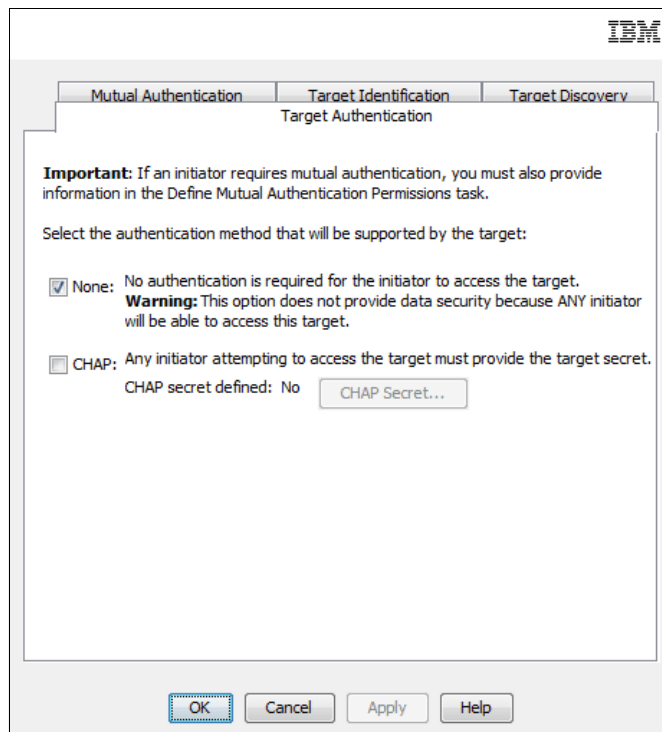

Figure 6-17 CHAP Authentication
3. You are presented with a panel for CHAP Authentication as shown in Figure 6-17.